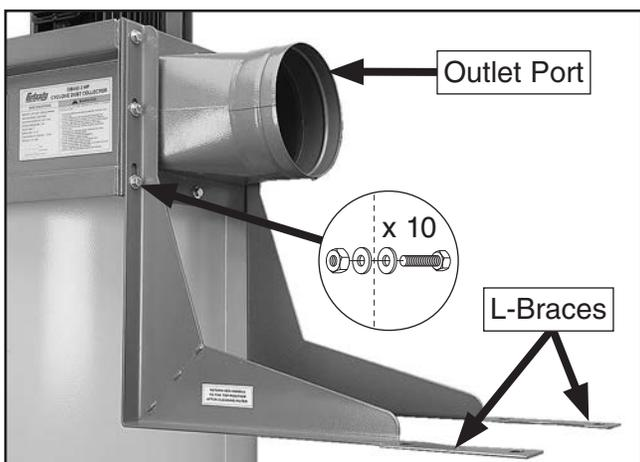

Figure 15. Outlet port and filter L-braces installed.
19. Attach outlet port and filter L-braces to blower housing with outlet gasket between outlet port and housing, as shown in **Figure 15**, using (8) $\frac{5}{16}$ "-18 x 1" hex bolts, (16) $\frac{5}{16}$ " flat washers, and (8) $\frac{5}{16}$ "-18 hex nuts.